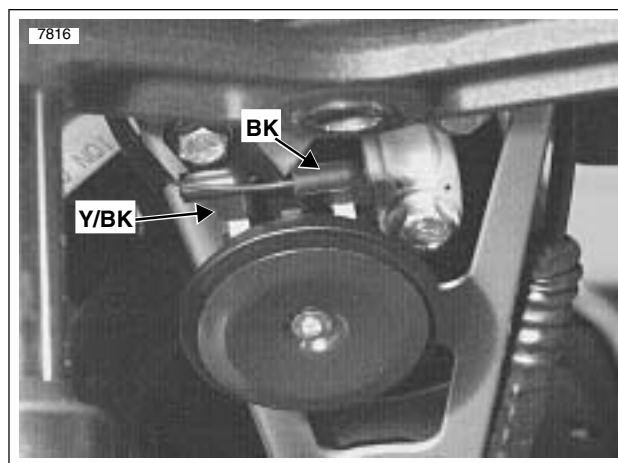

Figure 7-99. Horn Connector [122]
26. See Figure 7-99. Feed horn wires through frame hole on right side and install connector [122] to horn. Cable strap wires to isolator mount.